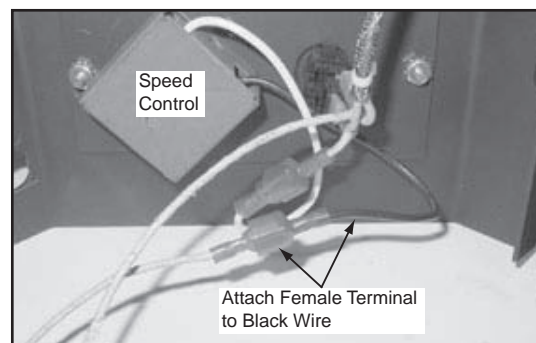

Figure 43.4
7. Attach the female spade terminal to the black wire that comes out of the speed control. **Figure 43.4.**